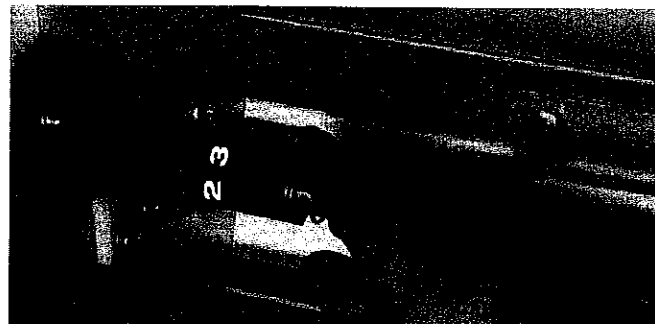

Figure 14: Stripper Pad Adjustment
2. Four (4) stripper positions are imprinted on the hex adjustment nut as shown in Figure 14.
4. Turn the adjustment rod until the preferred number setting (1, 2, 3 or 4) is face up as shown in Figure 14 on the preceding page.